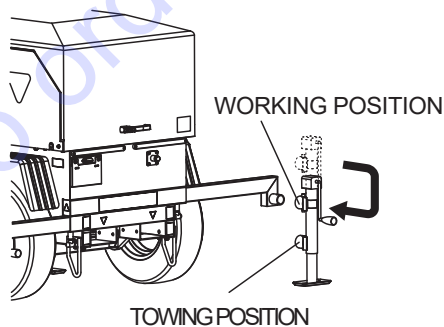

Figure 6. Positioning Jackstands
4. After extending all outriggers, rotate all trailer jackstands into the foot-down position (Figure 6).